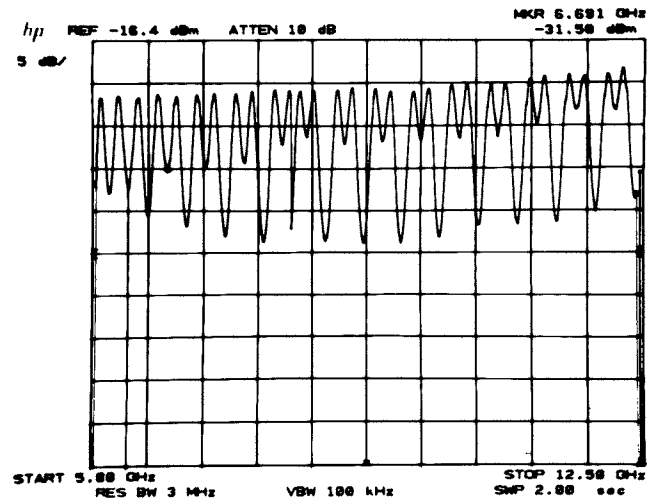

Figure 5-68. Typical Display Showing Modulation
54. At some point above 5.8 GHz, the frequency response will begin to go bad, as indicated by a larger peak-to-peak deviation of signal trace on the 8566A display. Refer to Figure 5-68.
55. Press MARKER and adjust marker to point on trace where this begins to occur. Refer to Figure 5-68.
82. Press MARKER and adjust marker to point on trace where this begins to occur. Refer to Figure 5-68 for typical display.